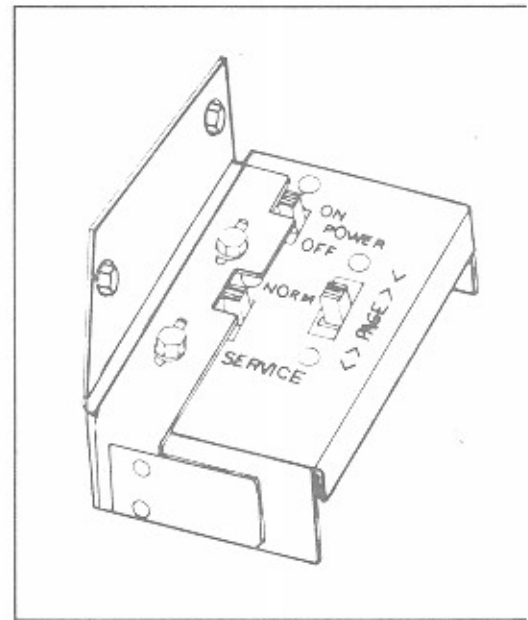

Figure 2-5 Service Switch
Repeat steps 4 and 5 until all titles are installed. Use the PAGE switch (figure 2-5) to change title rack pages. Insert filler title strips (Part Number 30940601) to fill out any unused space left on a page. Insert these in the same way that you installed the fill-in title strips.
2. Move the SERVICE switch to the SERVICE position, if not already done (refer to figure 2-5).
2. Move the SERVICE switch to the SERVICE position, if not already done (*refer to figure 2-5*).